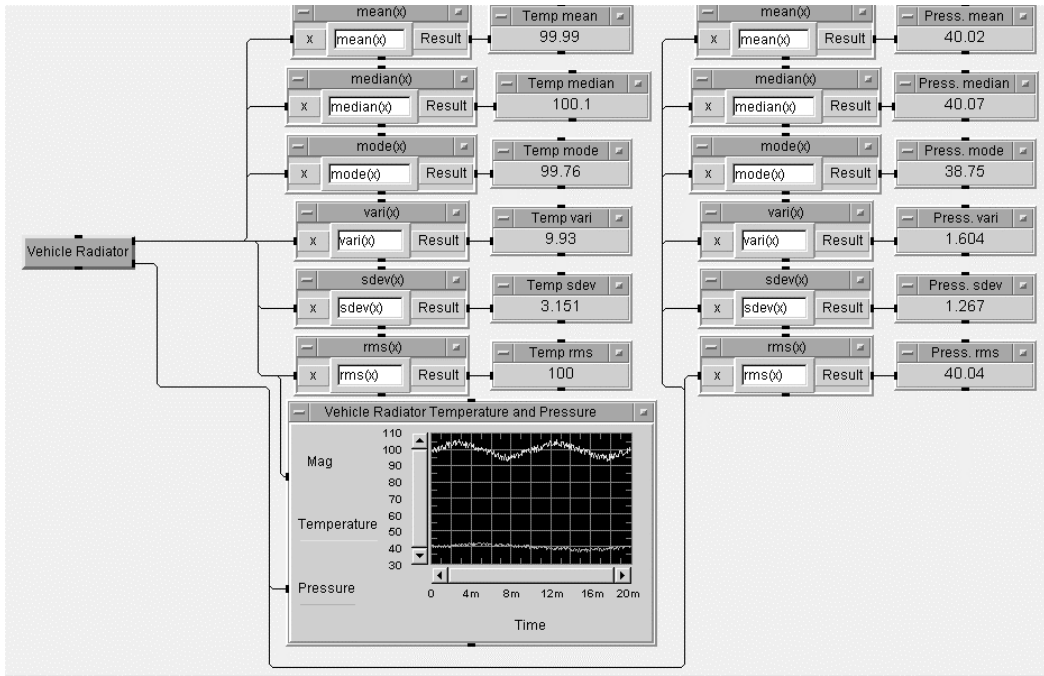

Figure 7.8. Vehicle Radiator Statistics program after running
21. Run this program; it should look like Figure 7.8.